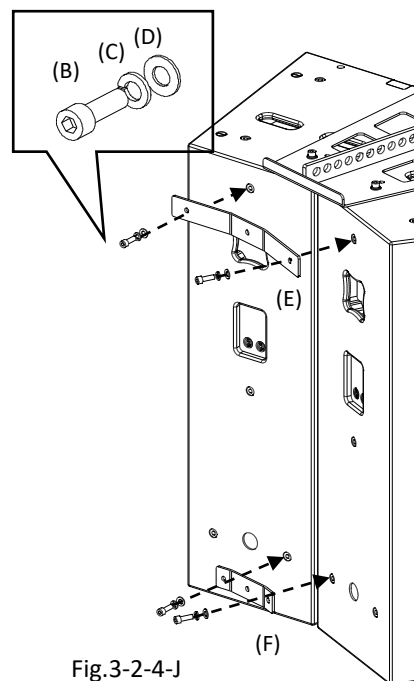

Fig.3-2-4-J
- (3) 16 holes on the top plate can be used to install the speaker to the ceiling. (Fig.3-2-4-K)